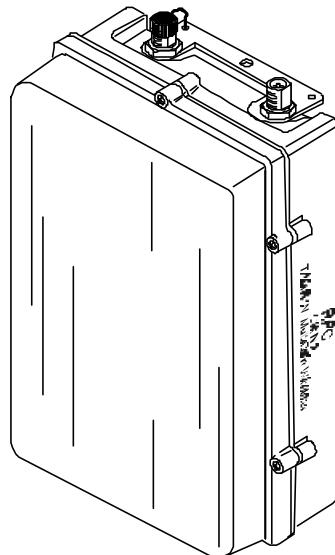

Figure 4-8. RPC with RF Connector Covered
- One. Cover the RF connector with the cover as shown in Figure 4-8.